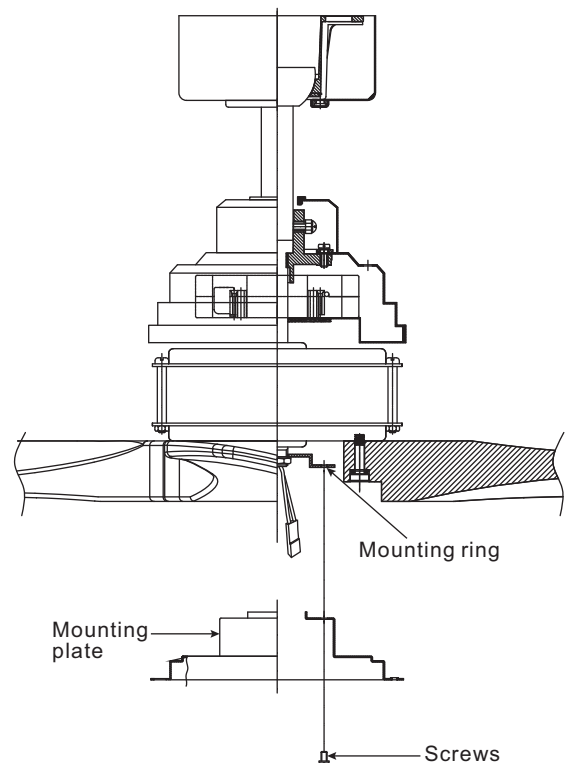

Figure 15
**Step 3.** Remove the 1 of 3 screws from the mounting ring and loosen the other 2 screws. (Do not remove) (Fig. 15)
**Step 4.** Place the key holes on the mounting plate over the 2 screws previously loosened from the mounting ring, turn mounting plate until it locks in place at the narrow section of the key holes. Secure by tightening the 2 screws previously loosened and the one previously removed. (Fig. 15)